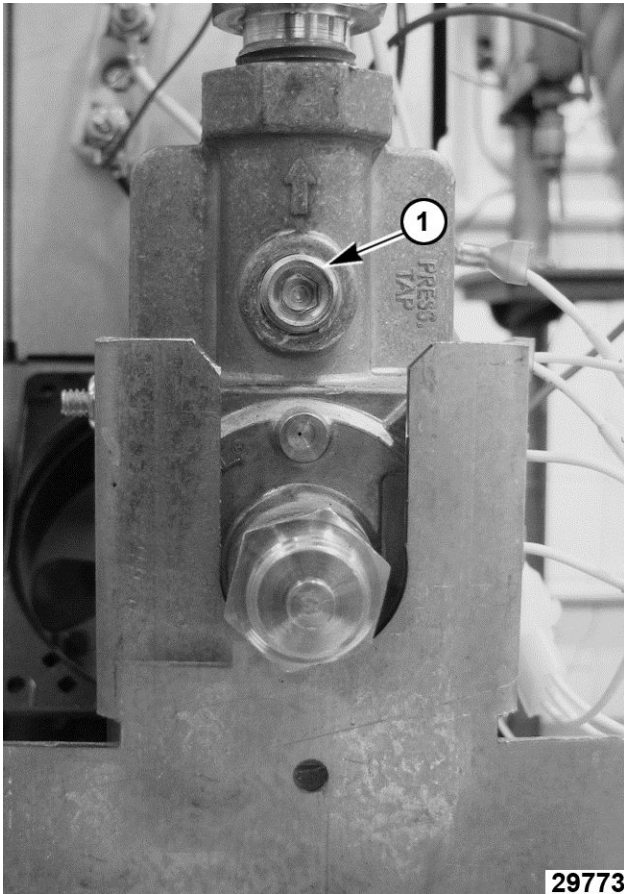

Fig. 40
- Remove plug from manifold pressure port (1, Fig. 40).